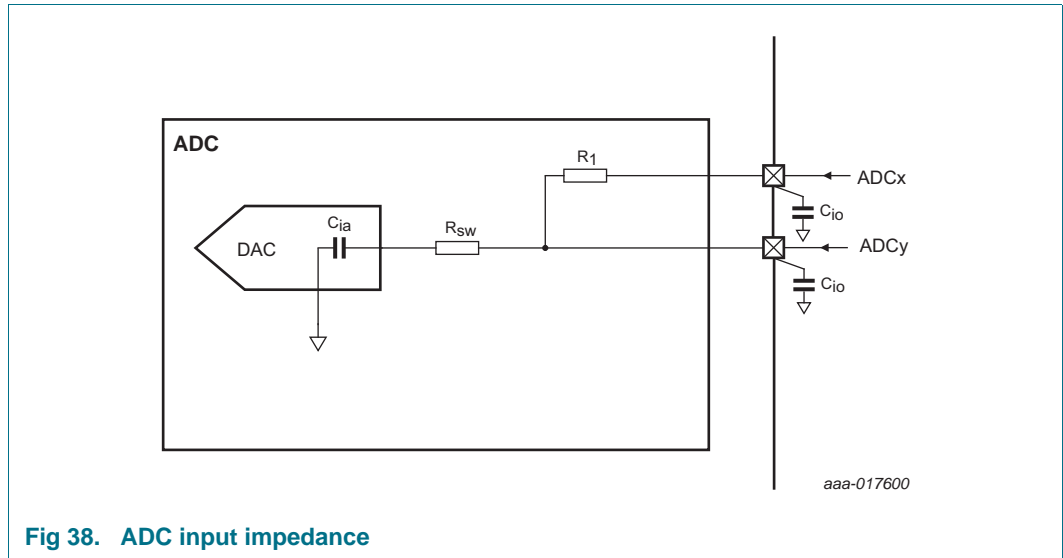

Fig 38. ADC input impedance
- [10] Input impedance Z_i is inversely proportional to the sampling frequency and the total input capacity including C_{ia} and C_{io} : $Z_i \propto 1 / (f_s \times C_i)$. See Table 21 for C_{io} . See Figure 38.
Figure 38 shows the ADC input impedance. In this figure: